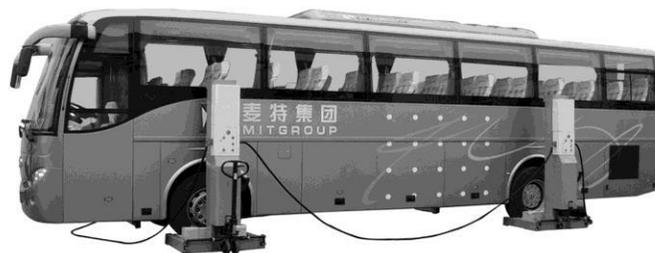

Fig. 12
7.1.2. Connect all columns with communication cable according to Fig. 12, turn the Mode Selection knob to PAIR or ALL mode, and power on main column and all slave columns. LCD screen will show work interface after successful connection.